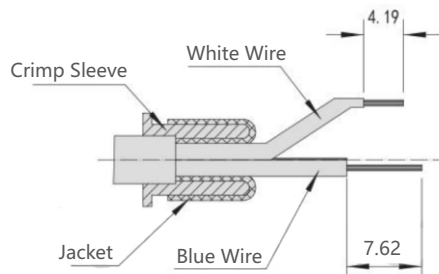

Figure 3.8
- ③ Fit the shield crimp sleeve onto the cable jacket. As shown in Figure 3.8, place the shield layer over the shield crimp sleeve, and strip the internal wires as shown (you can cut off the filler near the shield layer).